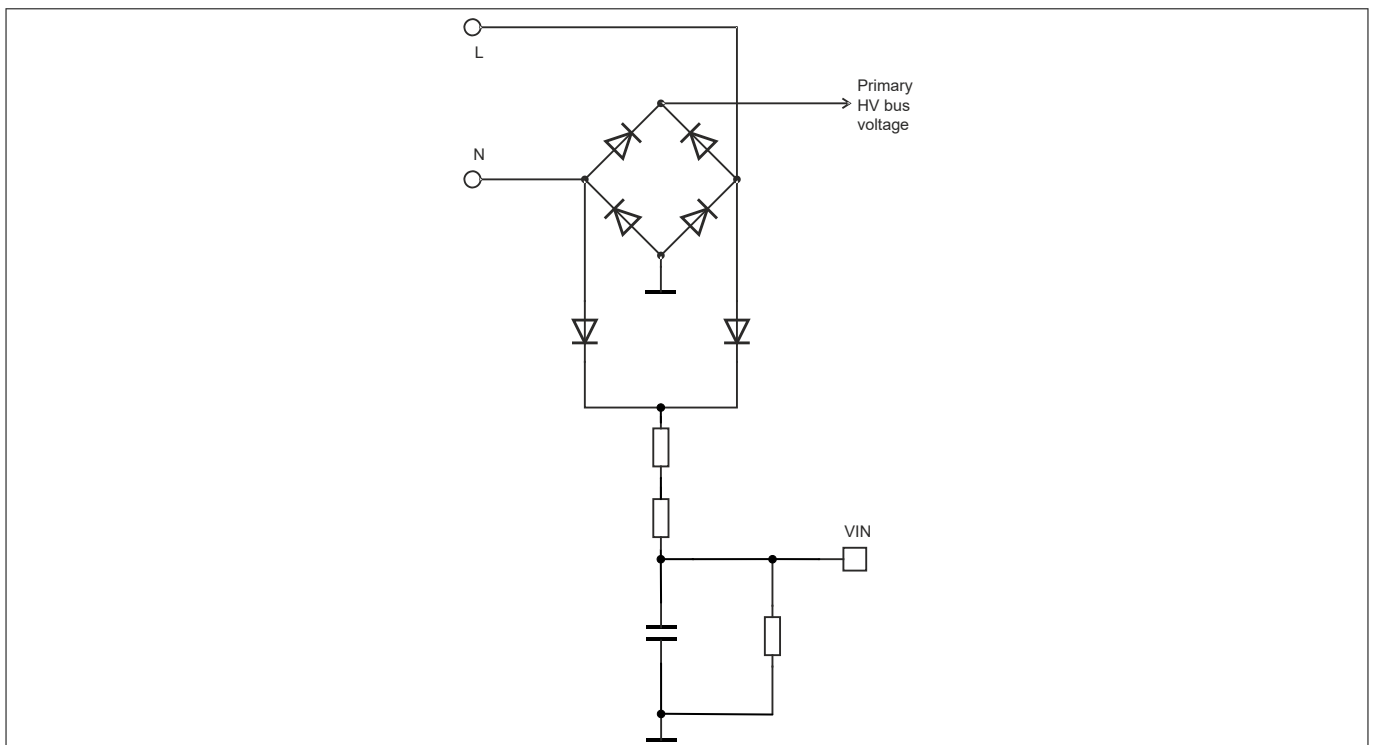
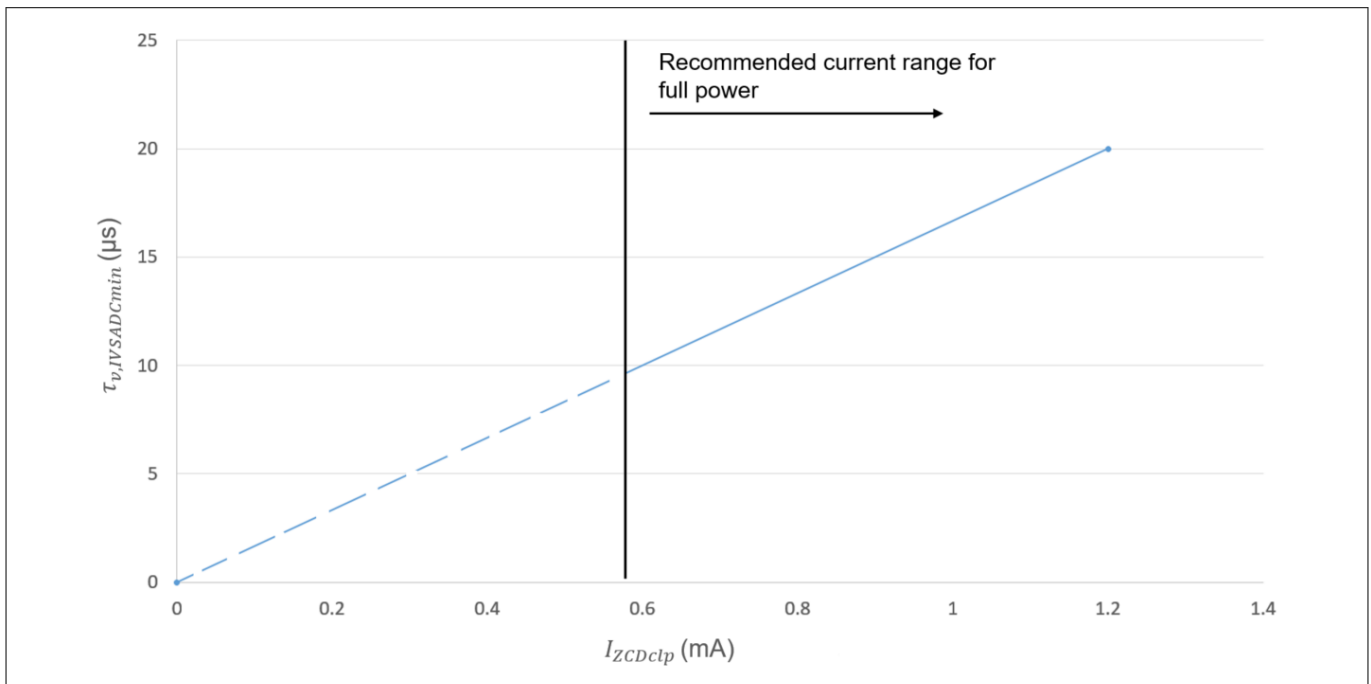
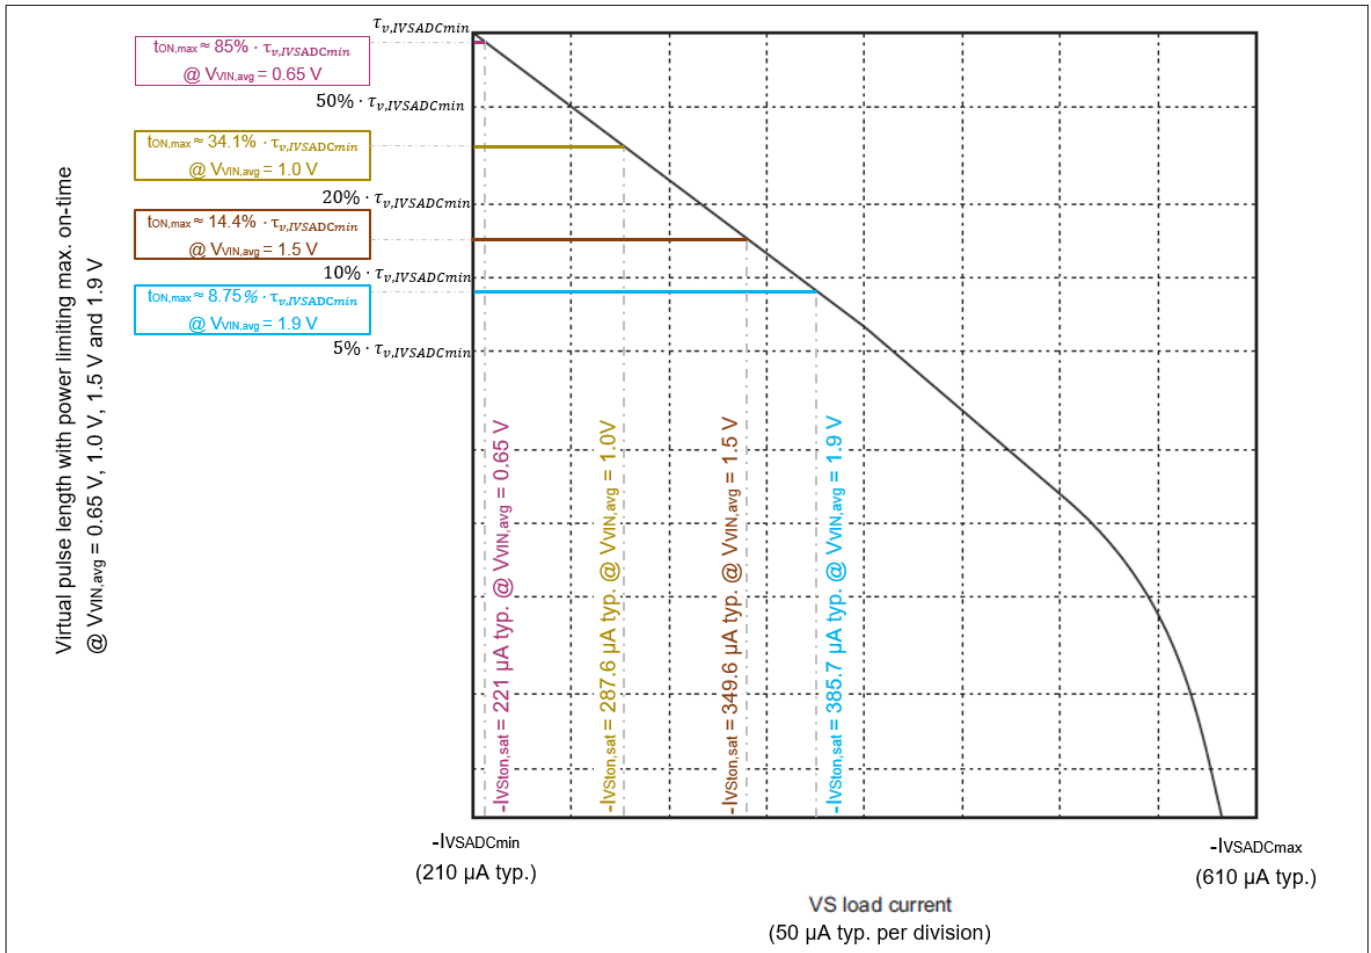

Figure 6 V_{IN} pin circuit
Figure 14 Virtual pulse length at $I_{VSADCmin}$, $\tau_{v,IVSADCmin}$ versus ZCD peak to peak settled clamping current, I_{ZCDclp}
Figure 15 Virtual pulse length mapping with power limiting maximum on-time effect
1. Based on $I_{ZCDclp} = 1.2 \text{ mA}$, obtain $\tau_{v,IVSADCmin} = 20 \mu\text{s}$ from Figure 14.
For $t_{ON,max}$ estimation, it is important to note that $\tau_{v,IVSADCmin}$ changes with different $V_{VIN,avg}$ level, when the input voltage detection circuit in Figure 6 is applied. This is because $\tau_{v,IVSADCmin}$ is scaled exponential depending on I_{ZCDclp} in Figure 14, while I_{ZCDclp} is dependent on the input voltage, as explained in ZCD pin signal sensing.
Figure 15 shows the virtual pulse length with the power limiting maximum on-time effect, when $V_{VIN,avg}$ is 0.65 V, 1.0 V, 1.5 V and 1.9 V, respectively.
When $V_{VIN,avg}$ is at the brownin level ($V_{BI} = 0.65$ V typ.), the power limitation is enabled with $t_{ON,max} = 85\%$ of $\tau_{v,IVSADcmin}$, as shown in Figure 15. For example, if the desired $t_{ON,max}$ at brownin level is 17 μ s typ., it is necessary to have $\tau_{v,IVSADcmin} = 17 \mu$ s / 85% = 20 μ s. And, according to Figure 14, $\tau_{v,IVSADcmin} = 20 \mu$ s is obtained when $I_{ZCDclp} = 1.2$ mA is applied. As a result, to achieve $t_{ON,max} = 17 \mu$ s typ. at brownin level, R_{ZCD} should be dimensioned to produce $I_{ZCDclp} = 1.2$ mA typ. at brownin level.